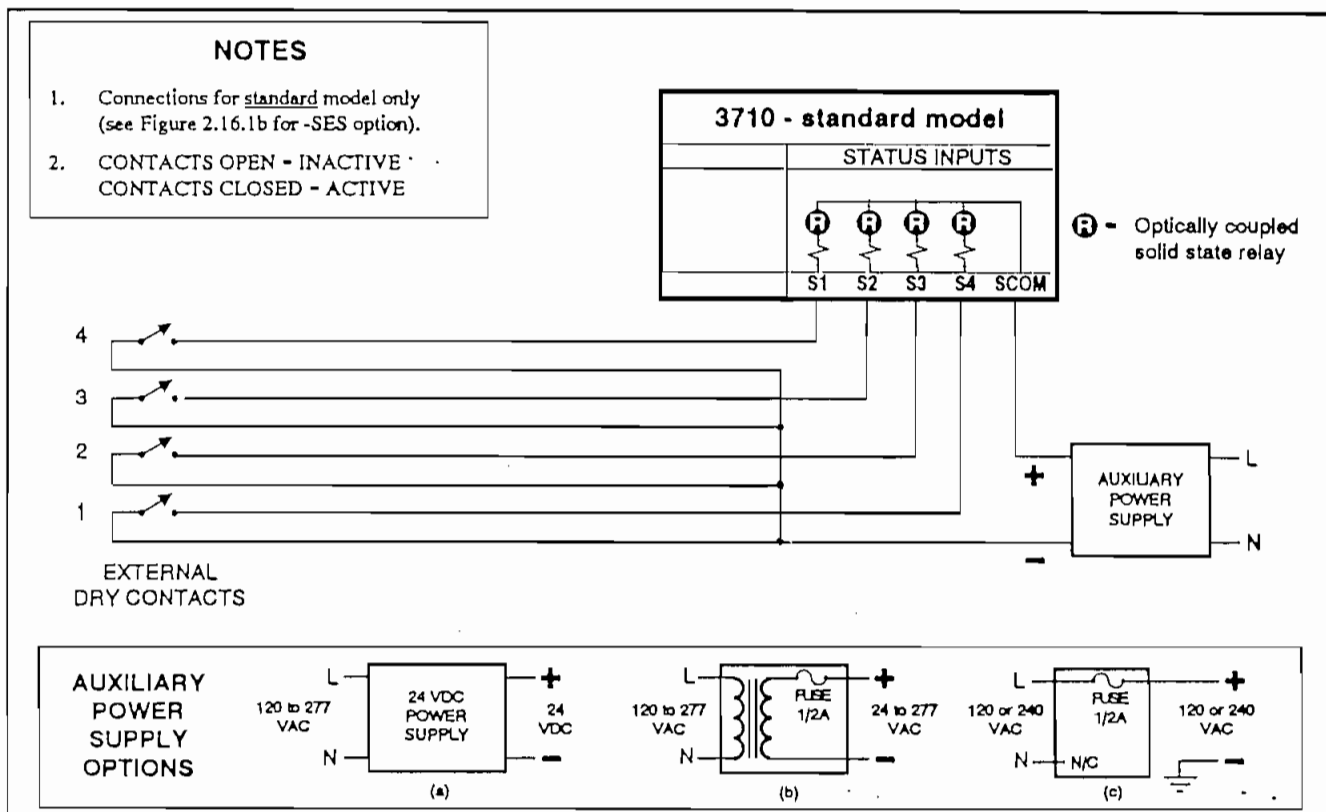

Figure 2.16.1a Status Input Connections for Dry Contact Sensing - External Excitation
For the standard model, dry contact sensing is performed using external excitation as illustrated in Figure 2.16.1a. External excitation is provided via the SCOM terminal. A 20 to 277 VAC/VDC external power source is required. Various options include:
1. Requires -SES option (see Figure 2.16.1a for standard model - external excitation)